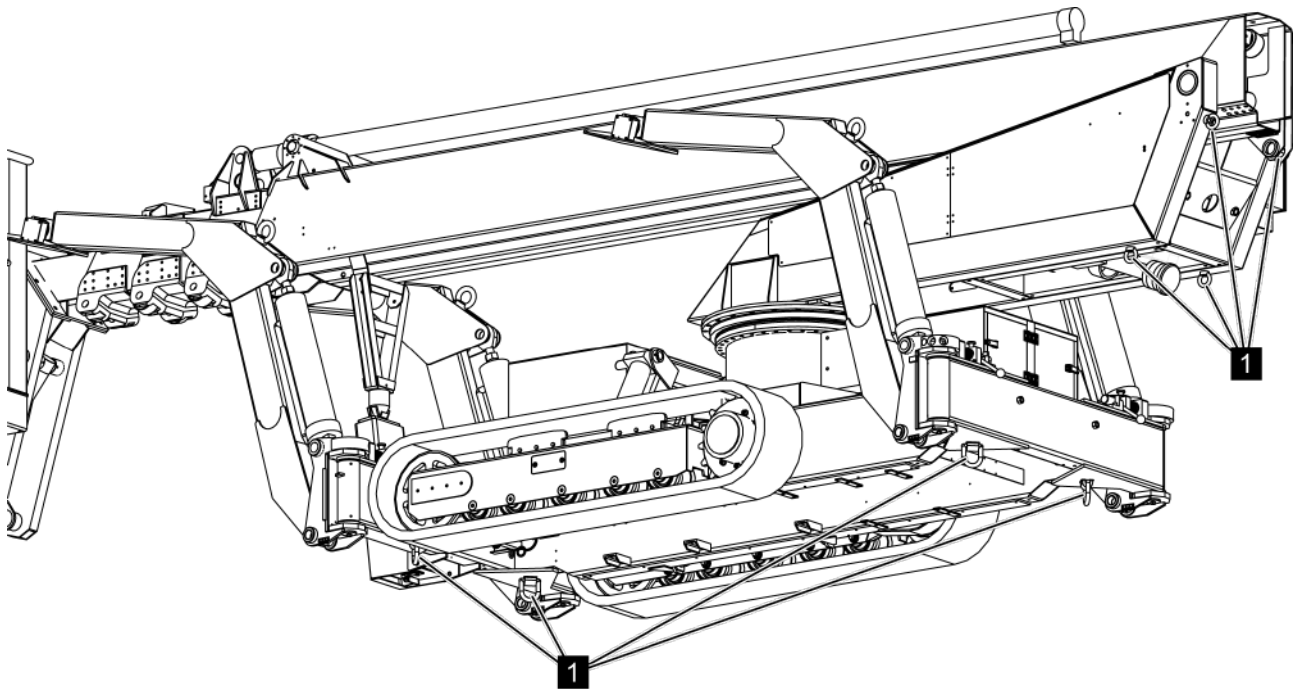

Fig. 44: Lashing eyes
3. ➤ Anchor and secure the aerial access platform to the means of transport, e.g. with safety belts in the lashing eyes (Fig. 44/1).